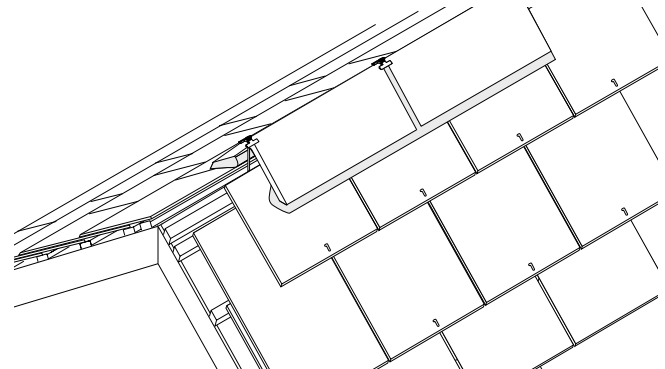

Fig. 28 – Ridge finished with mortar bedded angular ridge tile, mechanically fixed
- 3 The ridge fittings should be edge bedded onto the top course of the slates with solid bedding at butt joints, supported by slate pieces [Fig. 28].